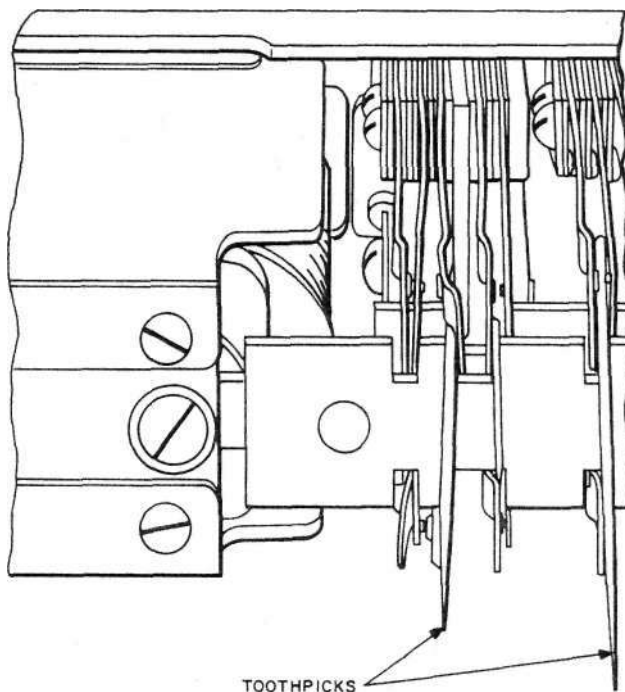

Fig. 48—Blocking Contacts of 229- and Similar-Type Relays
5.08 Blocking Contacts of 229- and Similar-Type Relays: Fig. 48—Block individual contacts with a toothpick, as shown in Fig. 48.